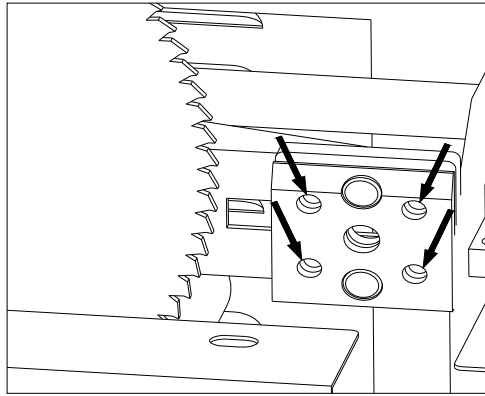

Fig.17(set screw for adjusting riving knife)
6. Use the set screws shown in **Figure 17** to adjust the riving knife bracket and re-install the riving knife.